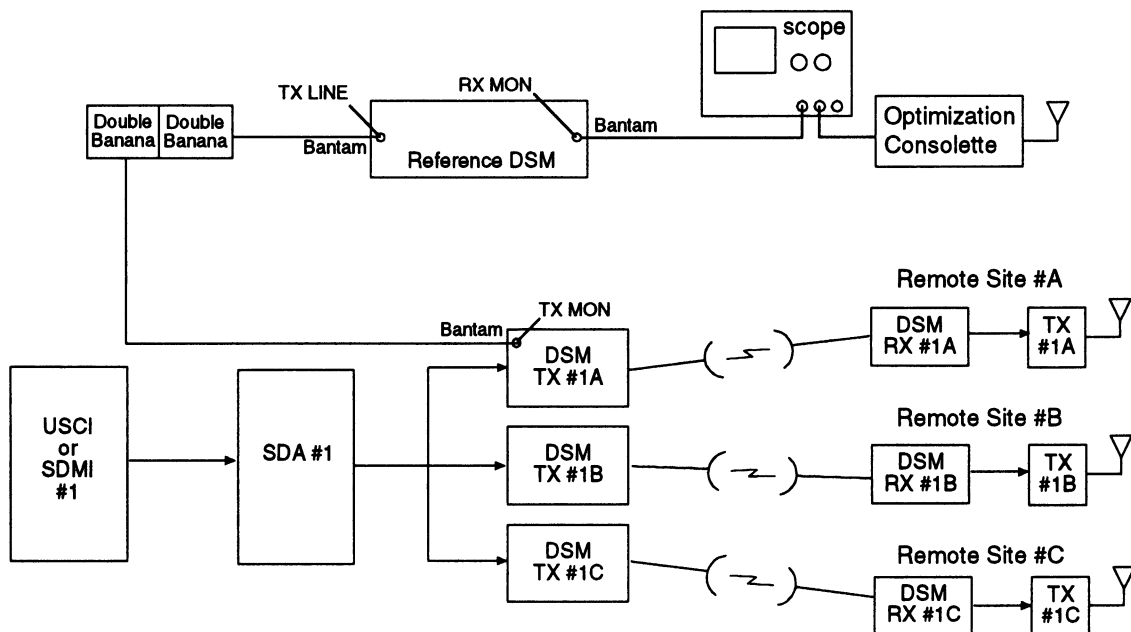

Figure 31. Two-Level Phasing Equipment Setup
- Step 4. Refer to Figure 31 and set up your equipment for phasing a two-level system.